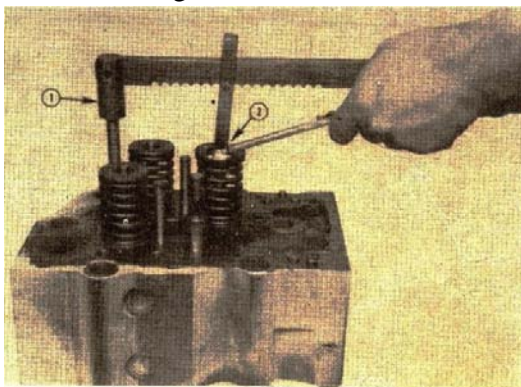
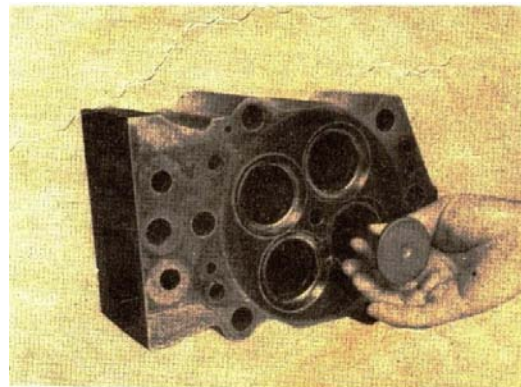

Fig. 2-2, Remove the valve springs
Fig. 2-3, Remove the valves
1. Use the ST-4481-6 (1, Fig. 2-2), 3375043 valve spring compressor to compress the valve springs. Remove the half collets (2), retainers springs, valve spring guides and valves. Fig. 2-3.
Note: A small magnet may be used as an aid in removing the half collets (2, Fig. 2-2).